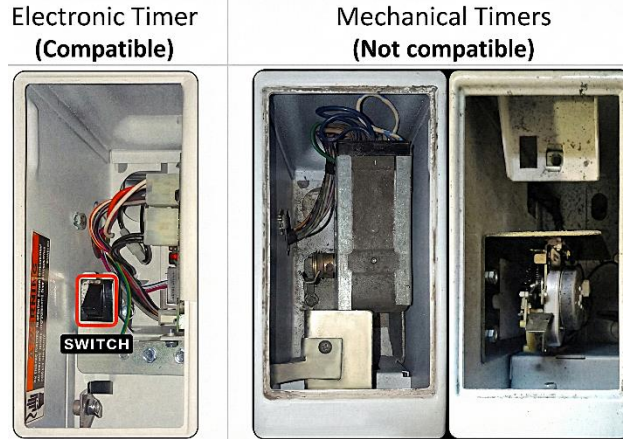

Figure 23
1. Open the coin slide service door to verify it has a compatible Electronic Timer as seen in **Figure 23**.